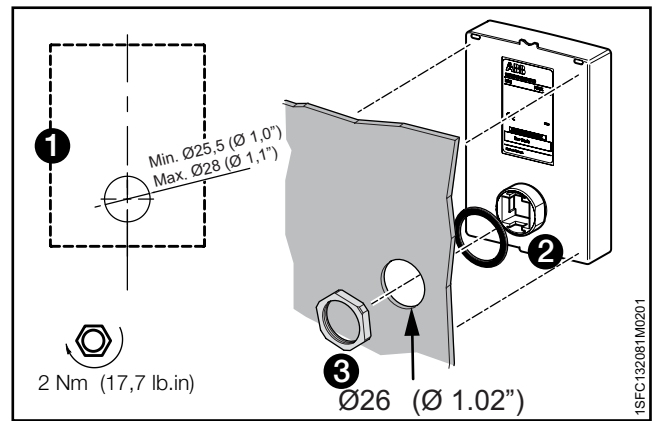

Figure 4.9
1. To remove the movable HMI from the softstarter, loosen the plastic latch below the movable HMI, see ❶ and ❷ in **Figure 4.9**.
2. Drill a hole where to attach the movable HMI. Maximum dimension of the hole is $\varnothing 26$ ($\varnothing 1.02$ "), see ❶ in **Figure 4.9**. Put the rubber packing around the threaded network connector on the movable HMI, see ❷ in **Figure 4.9**. Push the threaded network connector through the drilled hole. See ❸ in **Figure 4.9**. Fasten the plastic screw-nut on the threaded network connector, with 2 Nm (17.7 lb/in).